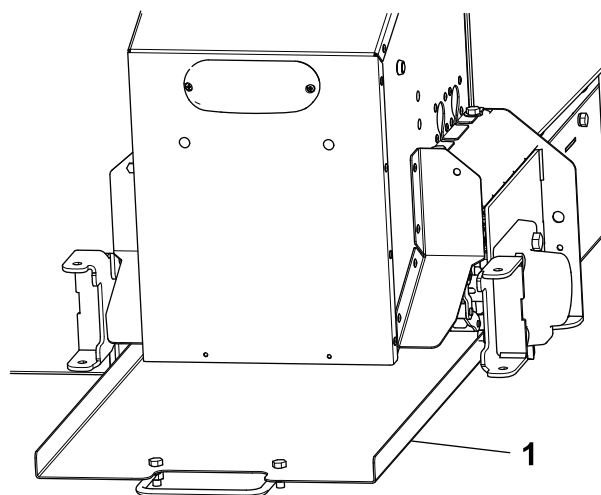

Figure 28
3. Lift up on the cleanout tray handle to clear the mount holes and slide the tray out (Figure 28).